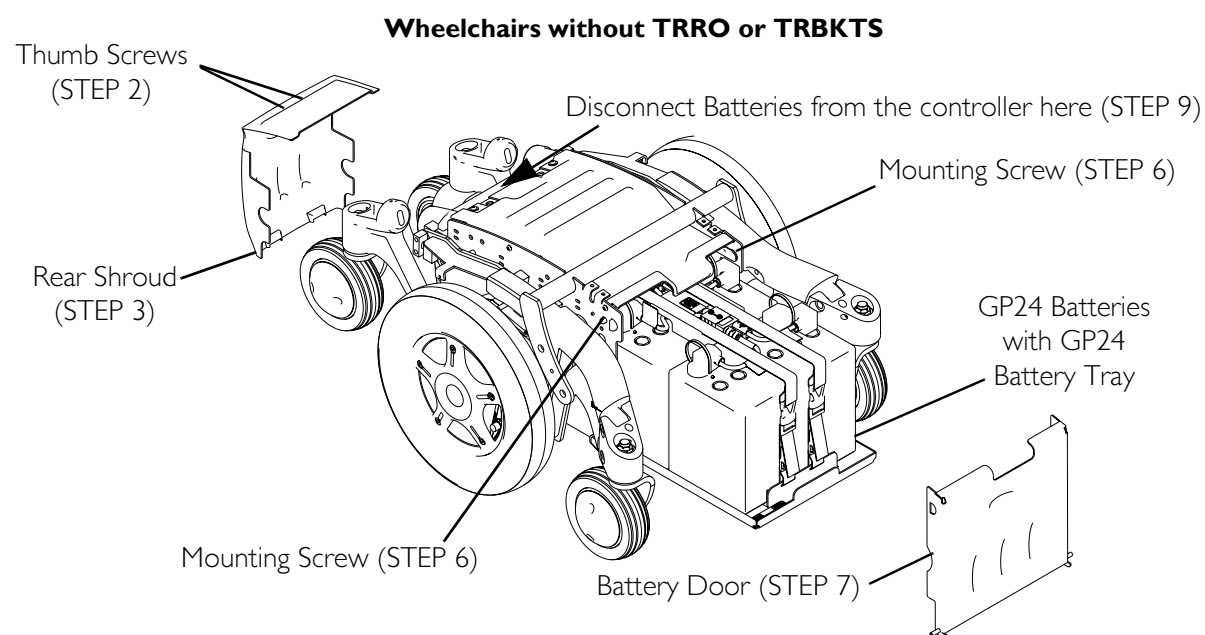
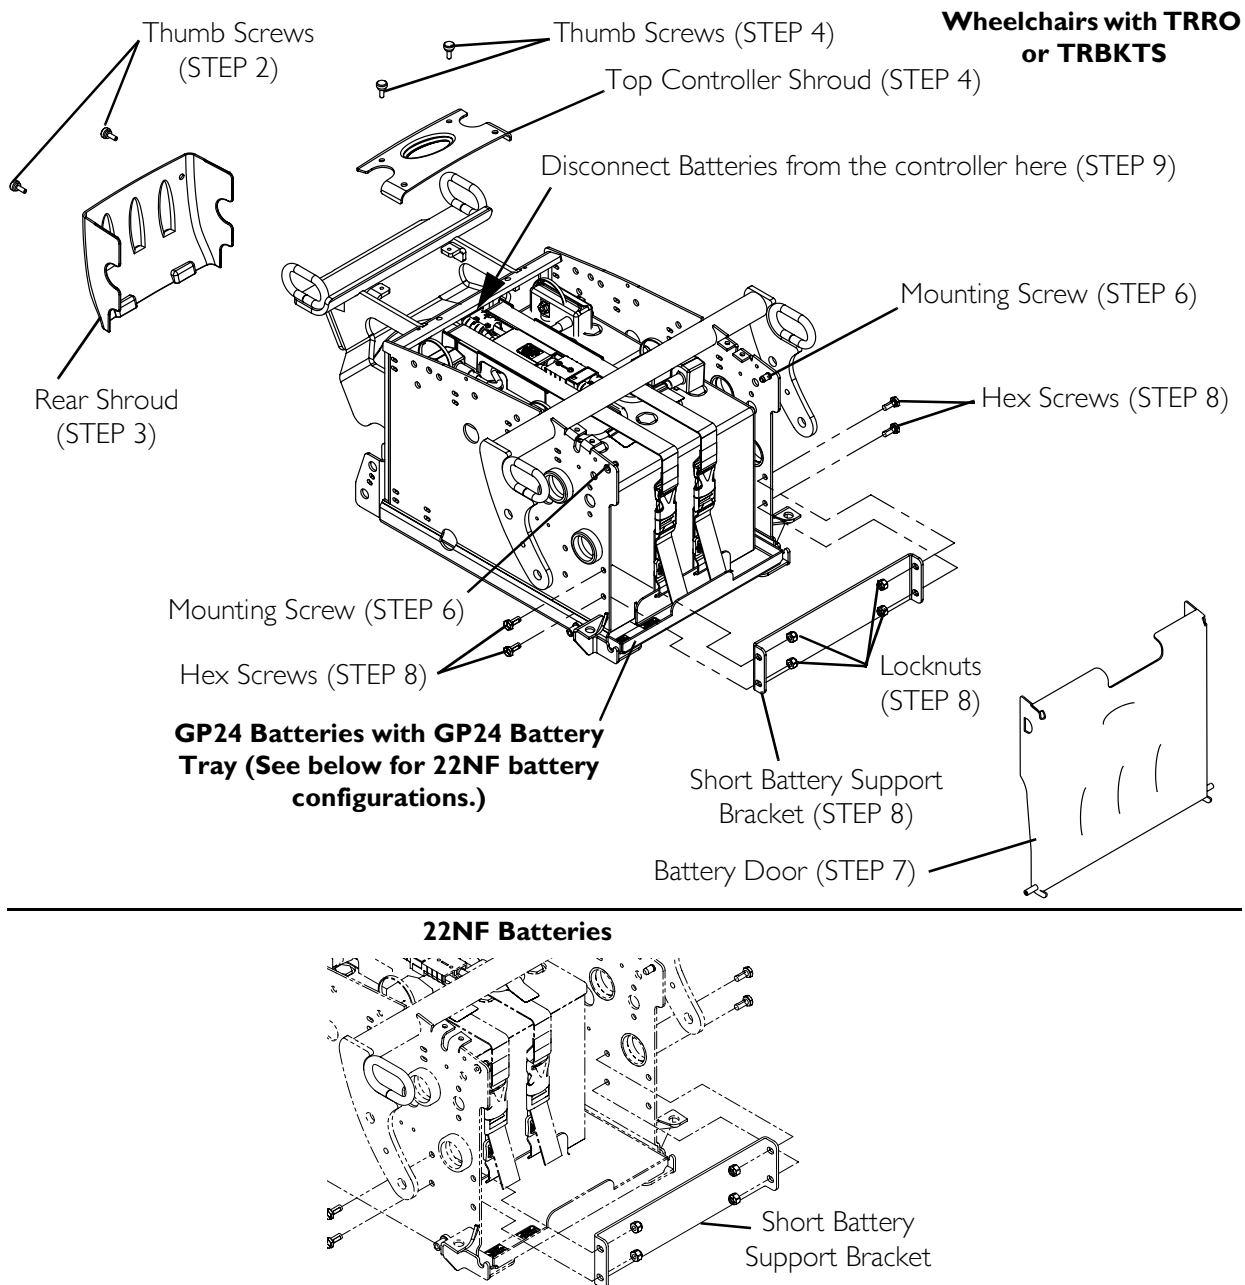

FIGURE 16.3 Removing the Battery Door and Rear Shrouds - Wheelchairs without TRRO or TRBKTS
FIGURE 16.4 Removing the Battery Door and Rear Shrouds/Installing the Battery Door and Rear Shroud - Wheelchairs with TRRO and TRBKTS
NOTE: For this procedure, refer to FIGURE 16.3 on page 178 and FIGURE 16.4 on page 179.
- A. Remove two thumb screws that secure the top controller shroud (FIGURE 16.4) to the battery box.
8. TRRO and TRBKTS Options Only - Perform the following steps (FIGURE 16.4):
1. Wheelchairs with TRRO and TRBKTS Only - Install the battery support bracket onto the battery box (FIGURE 16.4 on page 179) using the four hex screws and four locknuts (if applicable). Torque to 75 in-lbs.
NOTE: The installation of the battery support bracket depends on the type of battery and options on the wheelchair. Refer to the correct configuration in FIGURE 16.4 on page 179.
5. Wheelchairs with TRRO and TRBKTS Only - Reinstall the top controller shroud using the two thumb screws (FIGURE 16.4 on page 179).